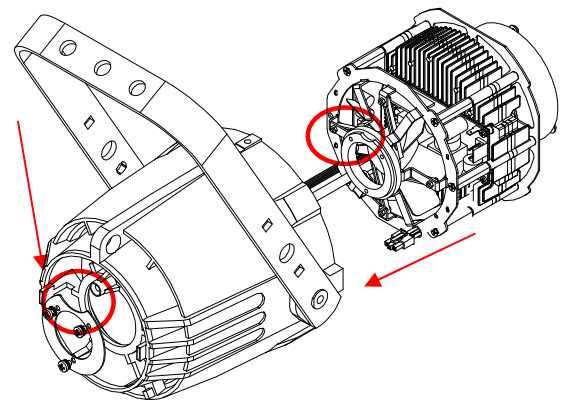

Fig.3
7. Accommodate the HPLLED II in the Source4 body. Ensure the correct inward direction is followed as remarked by the 2-red-round ring references. Make also sure to follow the red arrow direction as shown in figure 3. During such operation make sure that the 3 connecting cables (i.e. power cable, DMX cable and display cable) are not squeezed, while being lead through loop-holes during reassembling of the unit.